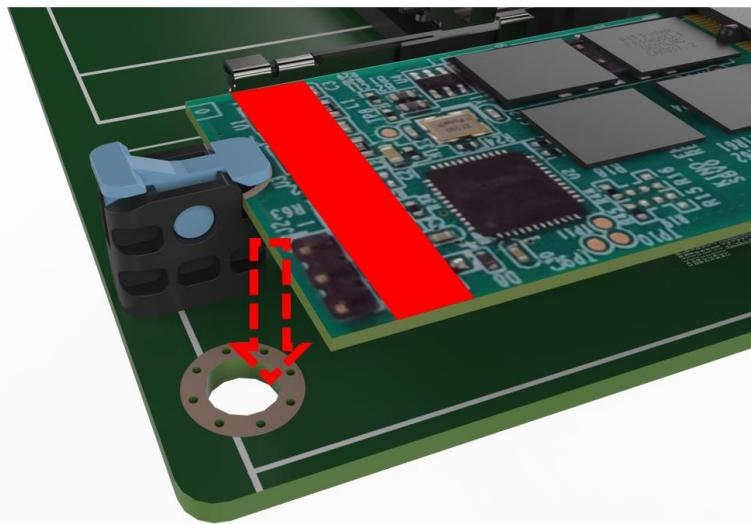

Figure 3-11: Securing the M.2 Card
Step 5: Secure the M.2 card. Press down the M.2 card to fix it (**Figure 3-11**).